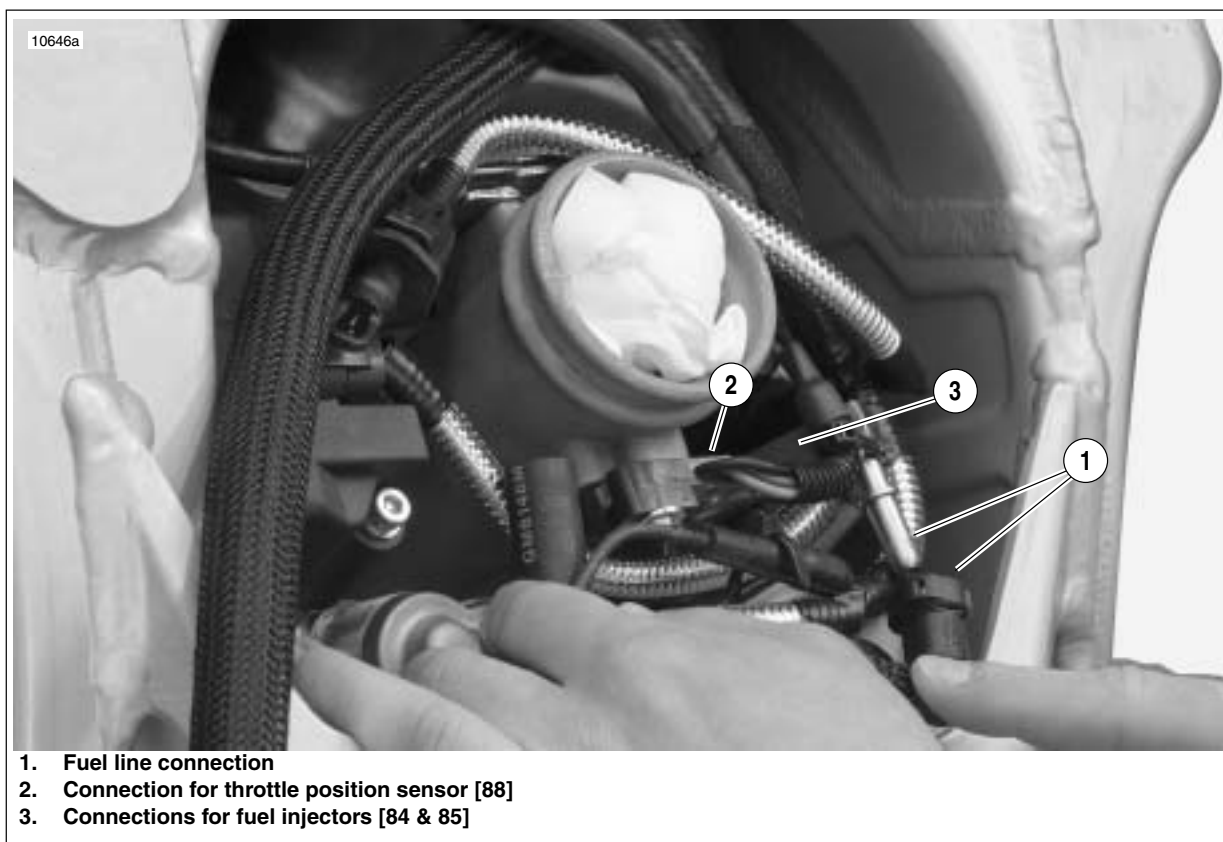

Figure 3-12. Fuel Line and DDFI Electrical Connections (Typical)
13. See Figure 3-12. Connect throttle position sensor [88].
15. Connect fuel line (1).